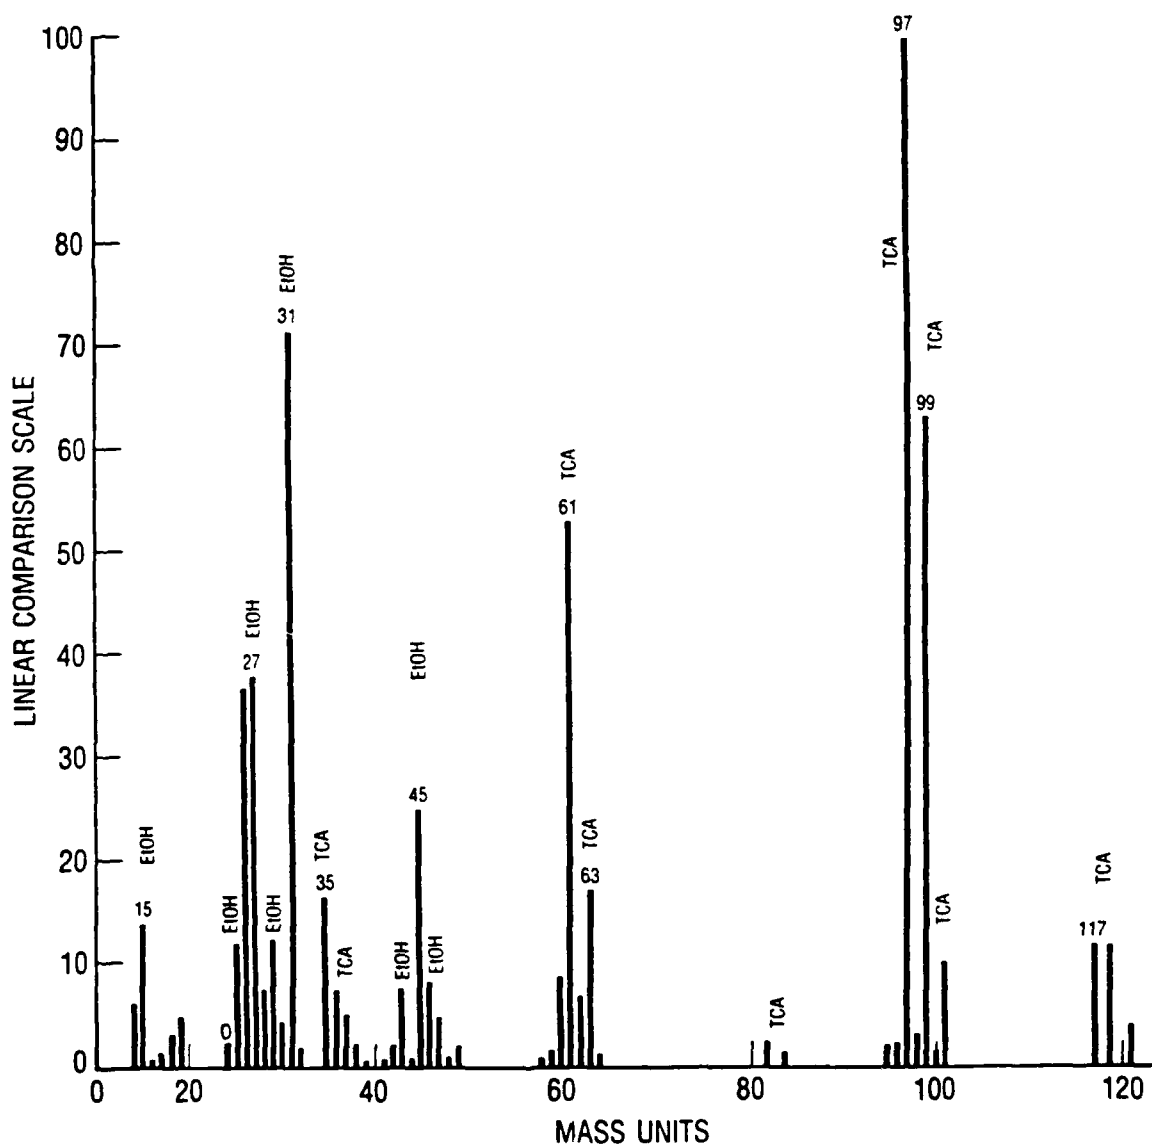

Fig. 1. Mass Spectrum Obtained From NVR Solvent (1,1,1, TCA + EtOH)
Before mixing the solvents (75 TCA: 25 EtOH) together, the NVR of each one should be certified according to the procedure described in ASTM Standard E1235-88, Section 10. If the NVR exceeds  $130 \pm 10$  micrograms, the contaminated solvent should be distilled and the NVR redetermined. Impurities below one ppm may be identified by analyzing solvent vapors in a gas chromatograph (GC) equipped with a hydrogen flame ionization detector. Mass spectrometers (MS) have also been used to obtain information on the identity of solvent constituents. A typical MS spectrum for the NVR solvent used in the method described in Appendix A is shown in Fig. 1.